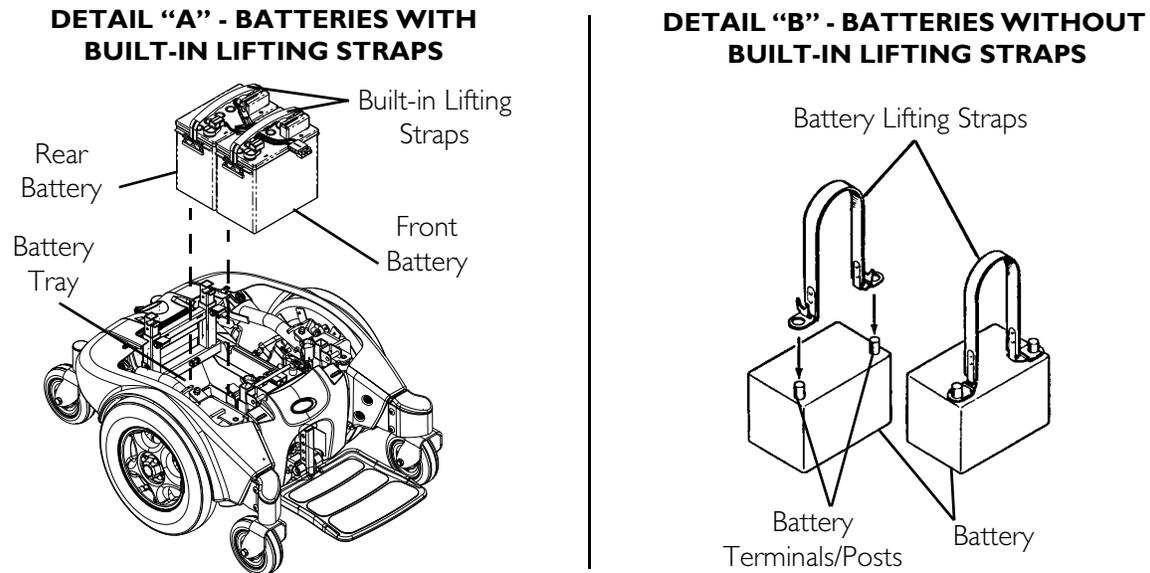
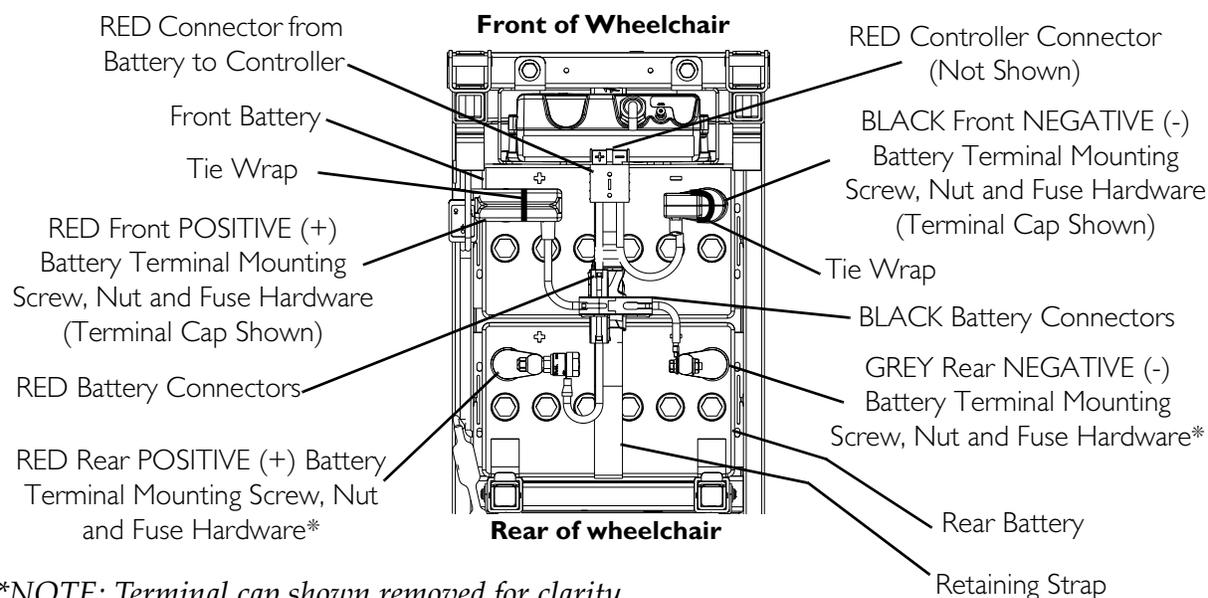

FIGURE 11.1 Batteries with/without Lifting straps
FIGURE 11.2 Installing/Removing the Batteries
NOTE: For this procedure, refer to FIGURE 11.1 and FIGURE 11.2.
- Batteries With Built In Lifting Strap - Use built in lifting strap to position battery into the battery tray (Detail "A" of FIGURE 11.1).
- Batteries Without Built In Lifting Strap - Use the battery lifting strap to position battery into the battery tray. When battery is in proper position, remove lifting strap (Detail "B" of FIGURE 11.1).
11. Connect the front battery to the controller (RED connector). Refer to FIGURE 11.2.
12. Connect the rear battery to the front battery (RED and BLACK connectors). Refer to FIGURE 11.2.
6. Disconnect the front battery from controller (RED connector). Refer to FIGURE 11.2.
8. Disconnect the rear battery from the front battery (RED and BLACK connectors). Refer to FIGURE 11.2.
- A. Batteries With Built-in Lifting Strap- Use built in lifting strap to remove the battery from the battery tray (Detail “A” of FIGURE 11.1).
- B. Batteries Without Built-in Lifting Strap- Use the battery lifting strap to remove the battery from the battery tray (Detail “B” of FIGURE 11.1).